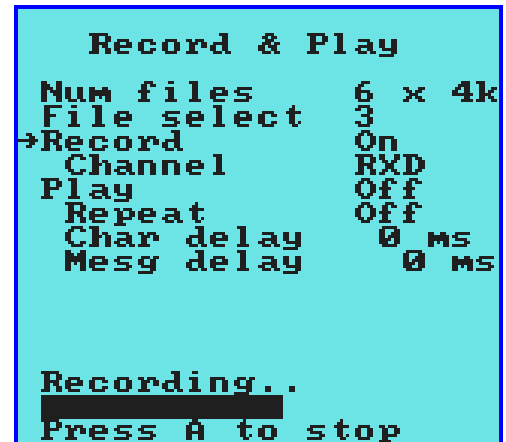

Figure 16. Recording data
This page contains eight software switches (see Figure 16). Navigate the screen by moving the cursor with the Up/Down Arrow keys. Change switch selections with the Right Arrow key.
In the example of Figure 16 (below), the flash has been divided into 6 files of 4KB each.
- Use the *Channel* switch to select RXD or TXD as the input channel. RXD is selected in Figure 16.
A horizontal progress bar near the bottom of the screen will indicate how much data has been recorded. In Figure 16 the progress bar indicates that File 3 is slightly more than half full. Recording will stop when the file is full or the user presses the 'A' key.